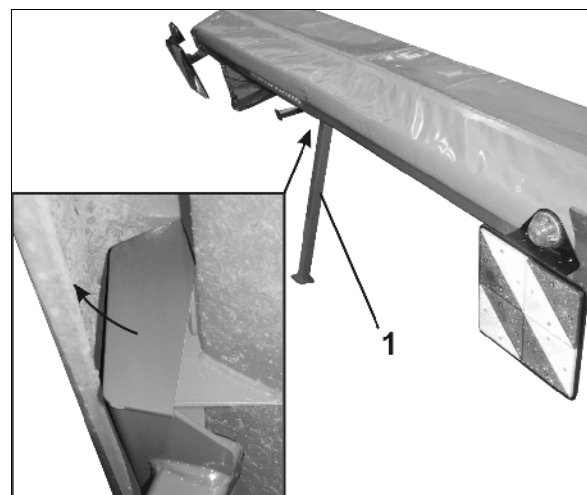

Fig. 14
6. Lift the **C-Drill** using the lifting device and lower it just enough onto a level surface so that it is possible to attach the parking support (Fig. 14/1).
Position the parking support behind the front hopper wall and pull them forward (Fig. 14).